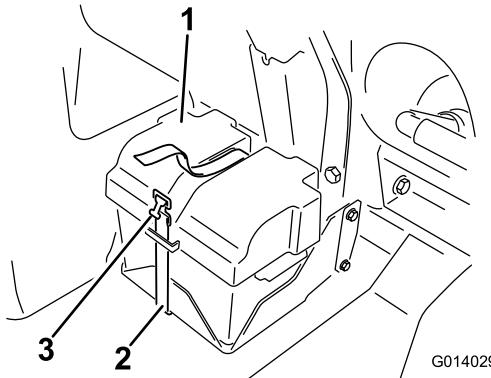

Figure 128
- Remove the battery cover and disconnect the negative (black) ground cable from the battery post (Figure 128).
4. Install the battery cover and secure it with the strap that you removed previously (Figure 128).